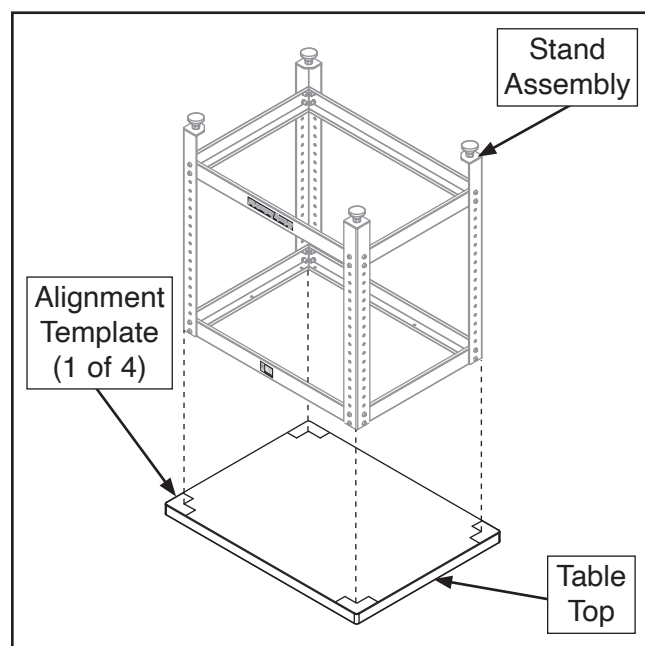

Figure 6. Stand assembly aligned with templates.
4. Repeat **Steps 1–2** with (4) short legs and remaining braces to assemble short stand assembly.
5. Place (3) tabletops face down on a flat protected surface with alignment templates facing up.
6. Align stand assemblies with alignment templates on tabletops, as shown in **Figure 6**.